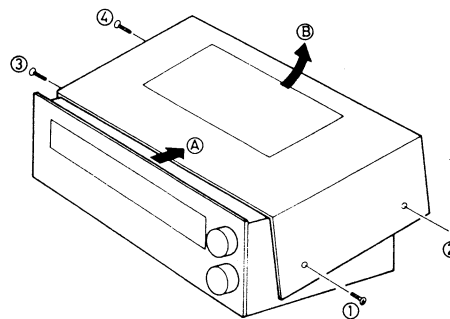

Fig. 7
2. Remove the four cabinet mounting screws (nos ①~④ screws in fig. 7).
3. Sliding it toward **A** direction and lifting it upward **B** direction as shown in fig. 7.